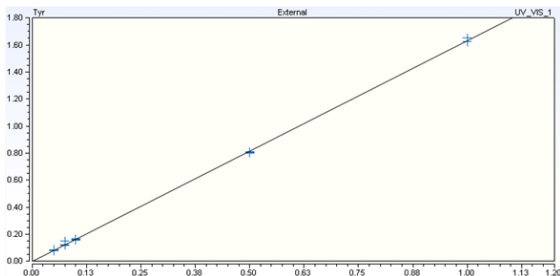

Figure 7: A Calibration curve
You can view the calibration curve(s) (Figure 7) in the **Data Processing** category of the Chromatography **Studio**:
- Select **Calibration Plot** in the **Panes** group (Figure 7).